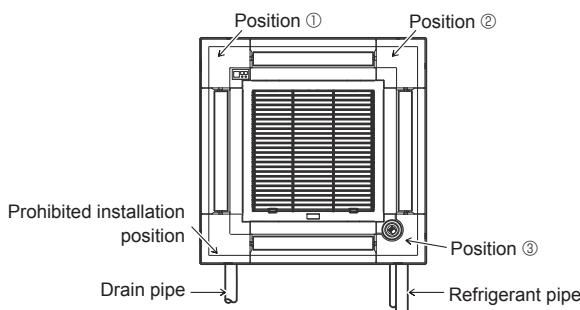

Fig. 9-10
- The i-see Sensor corner panel should be fixed onto the grille ① with screw ③.
- If the position of the i-see Sensor was changed from default position (Position ③) to the other position, change the function settings. (Refer to page 10 and Fig. 9-10)
- The i-see Sensor corner panel can not be installed on the drain pipe side for the main unit. (Refer to Fig. 9-10)